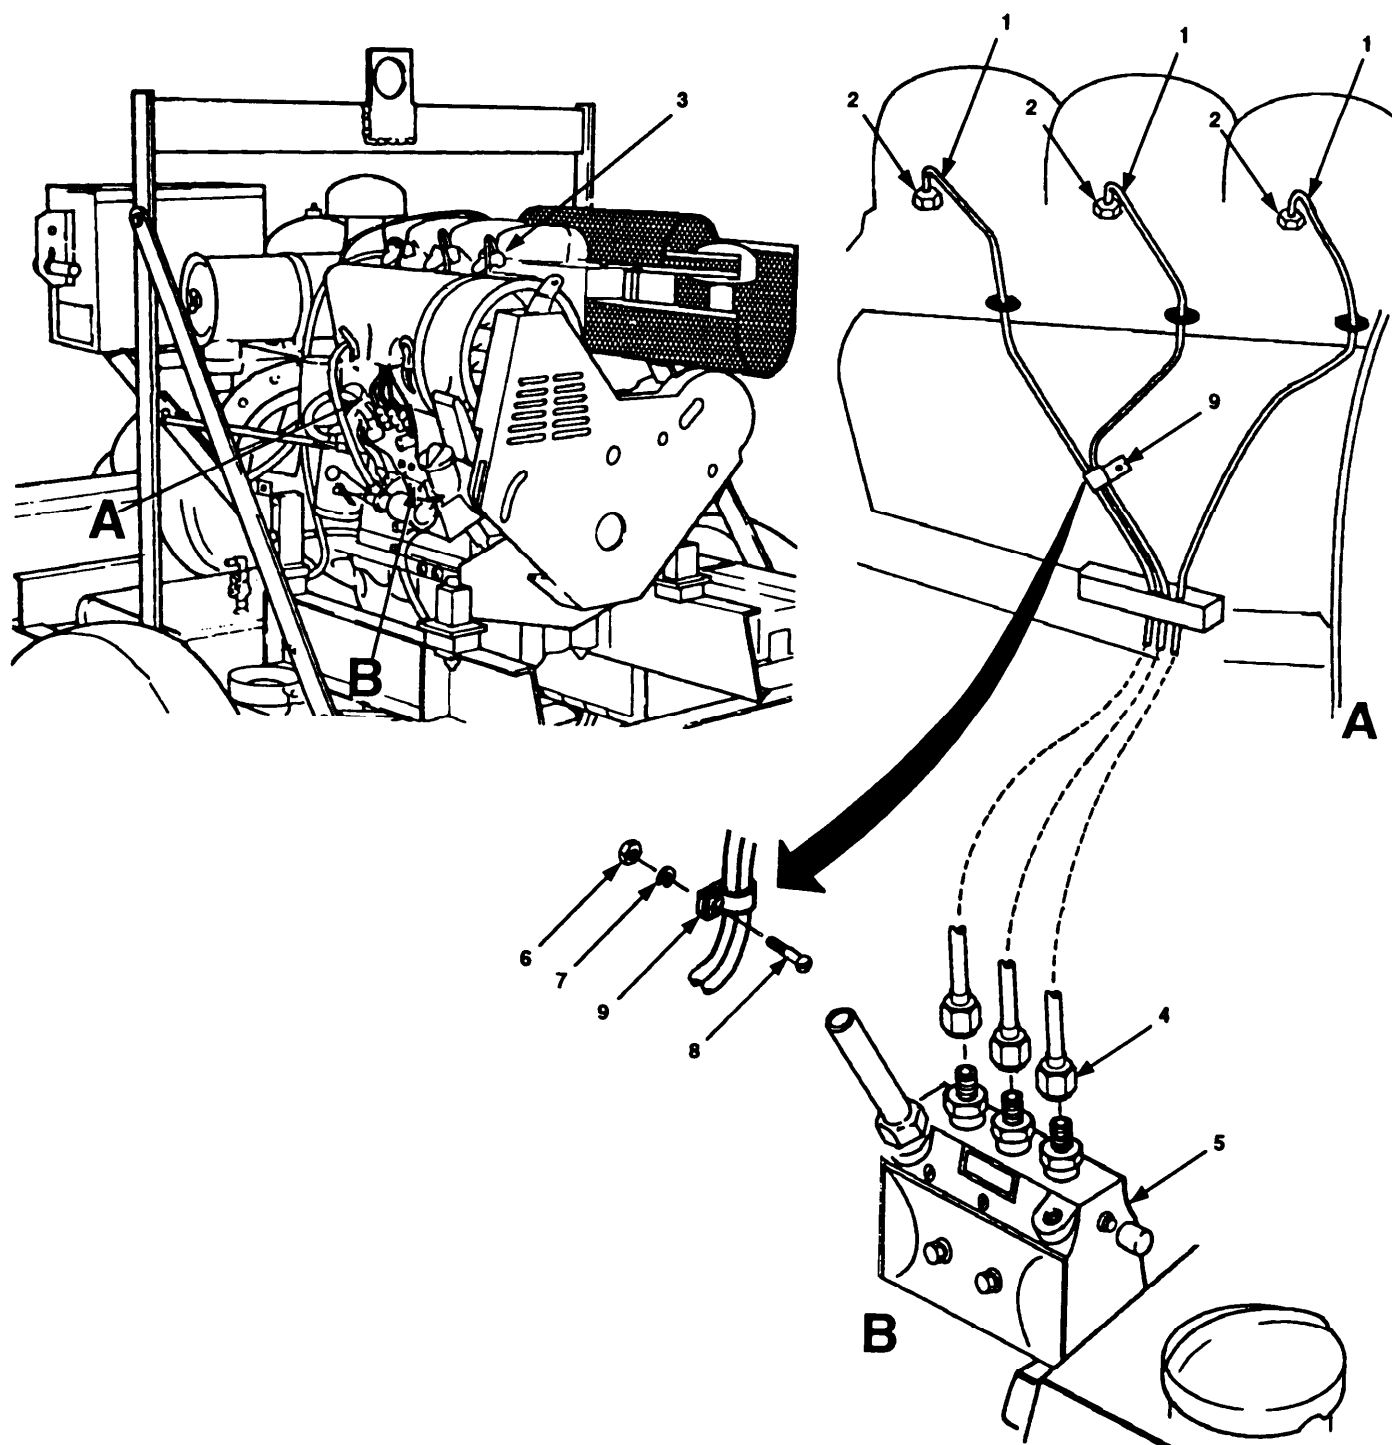

Figure 4-25. High Pressure Fuel Lines.
- (2) Remove banjo bolt, (6), washer (7), and washer (8).
- (3) Remove banjo bolt, (9), washer (10), connector (11), washer (12), washer (13) and return line (1) .
- (4) Remove fluid restriction bolt (14), washer (15), connector (16), washer (17), and return line (2).
i. Remove high pressure fuel lines (figure 4-25, 1) as follows:
- (1) Tag the three high pressure fuel lines (1).
- (2) Remove three nuts (2) at fuel injection nozzles (3).
- (3) Remove three nuts (4) at fuel injection pump (5).
- (4) Remove nut (6), lockwasher (7), bolt (8) and clamp (9).
- (5) Remove high pressure fuel lines (1) from engine.
- a. Install high pressure fuel lines (figure 4-25, 1) as follows:
- (1) Position high pressure fuel lines (1) on engine.
- (2) Install clamp (9), bolt (8), lockwasher (7) and nut (6) .
- (3) Install three nuts (4) on fuel injection pump (5).
- (4) Install three nuts (2) on fuel injection nozzles (3) and remove tags.